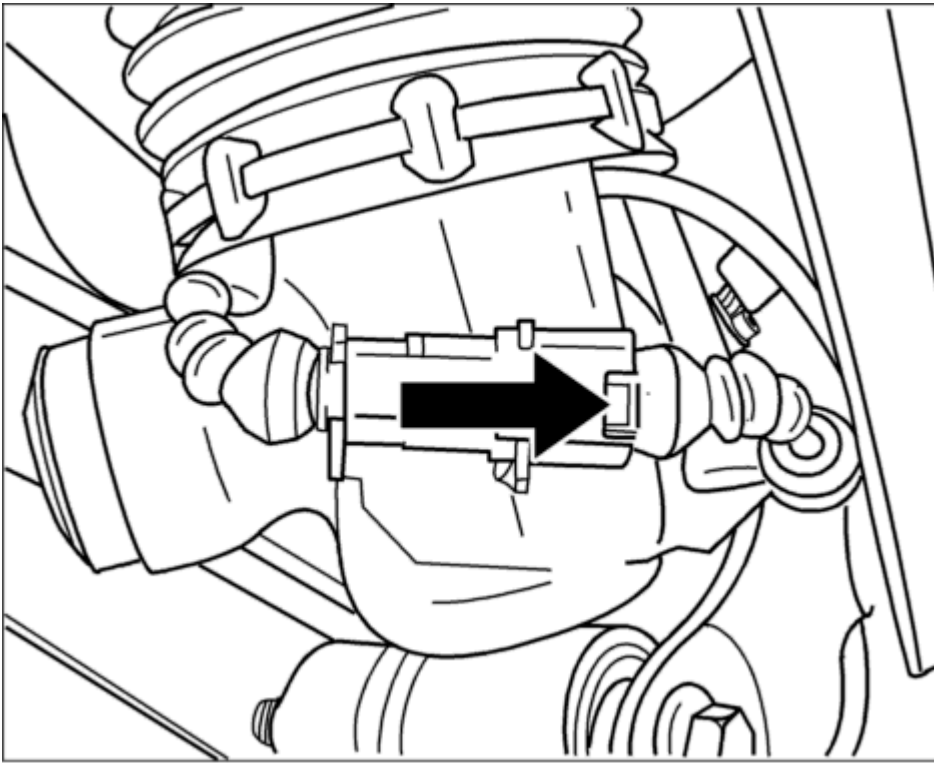

Fig. 67: CDC sensor plug connection
5. Disconnect CDC sensor plug connection -**arrow**- , remove the cable from the holder, and set the cable aside. See **Fig. 67**.